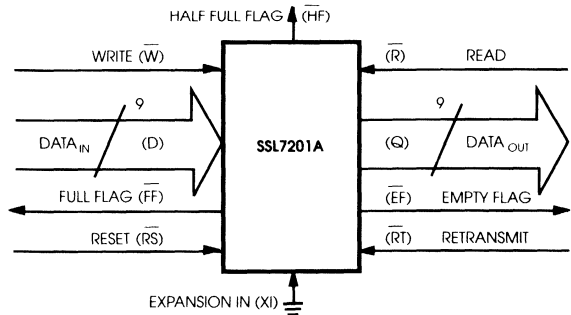

Figure 2. BLOCK DIAGRAM OF SINGLE 512 X 9 FIFO.
The SSL7200/1/2/3 can be used in single device mode. To do so, simply ground the Expansion In (XI) control input pin as shown in Figure 2. In this mode the Half-Full Flag (HF), which is an active LOW output, is shared with Expansion Out (XO).